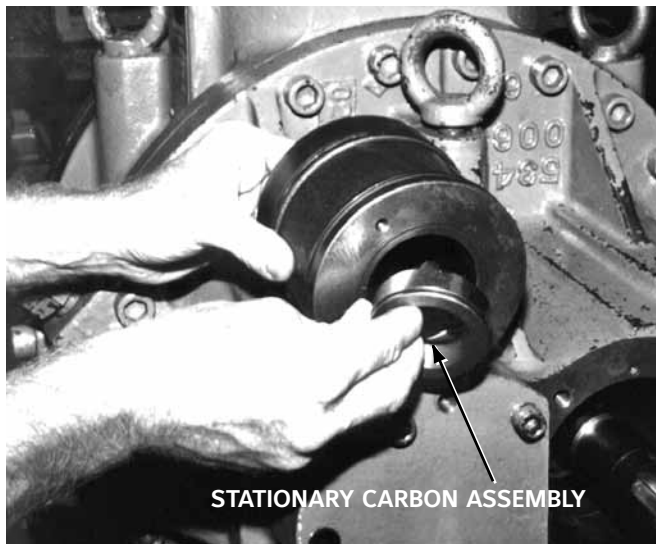

Figure 7.
7. Remove stationary carbon assembly (7) from seal housing spacer. This is the *other half* of the shaft seal assembly. See Figure 7.
8. Remove O-rings from seal housing spacer (4).